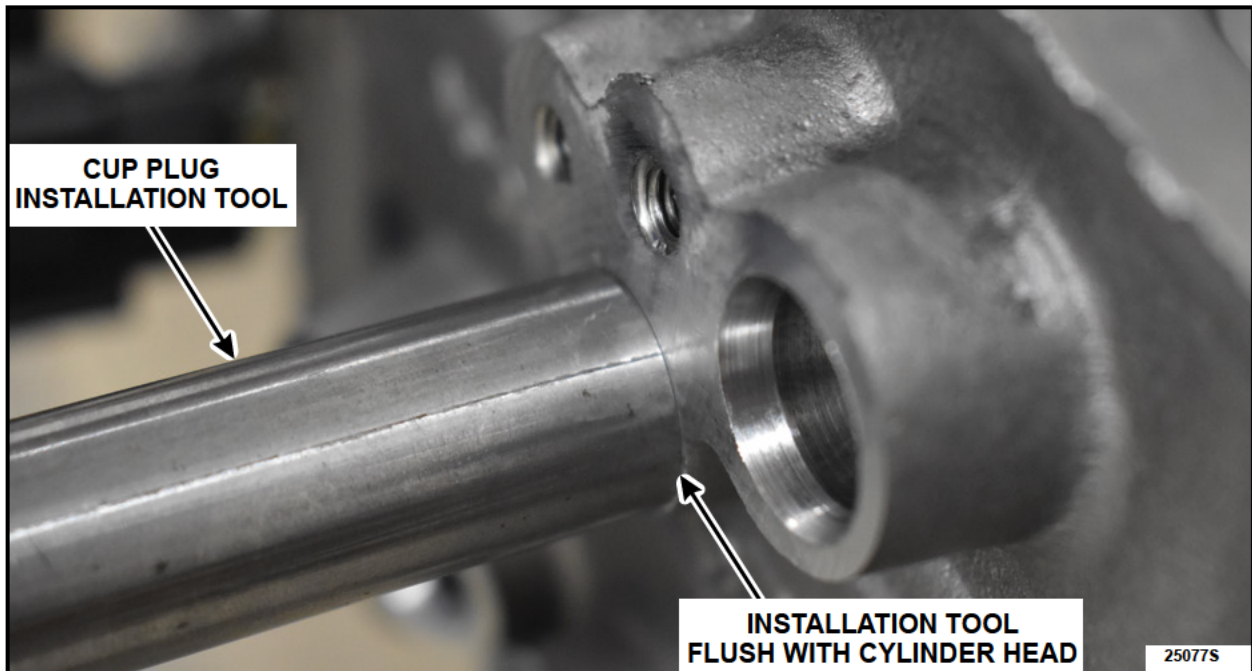

FIGURE 28
10. Using the cup plug installation tool and a hammer, install the *new* cup plug until the installation tool is flush against the cylinder head. See Figure 28.